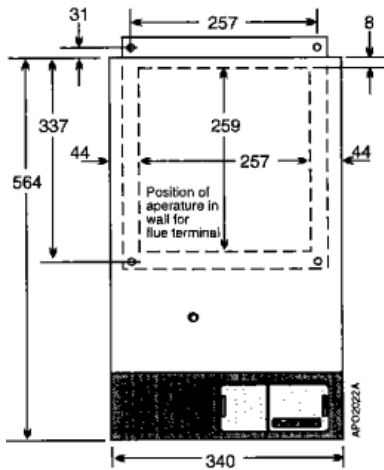

Fig. 6
2.2 Prepare the wall - see Fig. 6.
2. Mark the position of the hole for the flue duct and the four wall plate fixing screws as shown in Fig. 6.